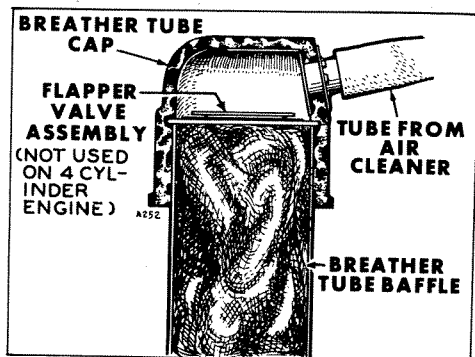

Fig. 17 Breather Valve and Baffle
G. - BREATHER VALVE. Lift off rubber breather cap (fig. 17). Carefully pry valve from cap. Otherwise press hard with both of your thumbs on top of cap to release valve from rubber cap. Wash the fabric flapper type check valve in fuel. Dry and reinstall positioning perforated disc toward engine. NOTE: None used on 4-cylinder engine.